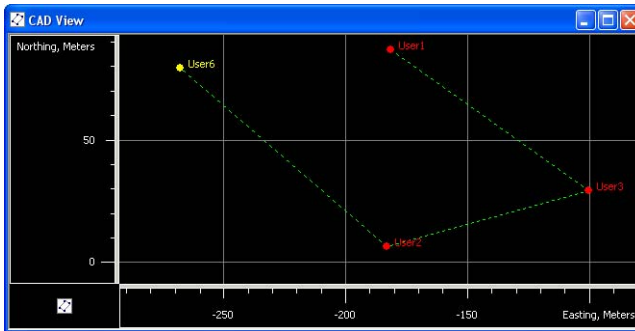

Figure 5-35. Example: Appending Points to the Line
3. Click any line on the CAD view to automatically append the selected point to (Figure 5-35). The *Lines* tab display a new vertex of the line